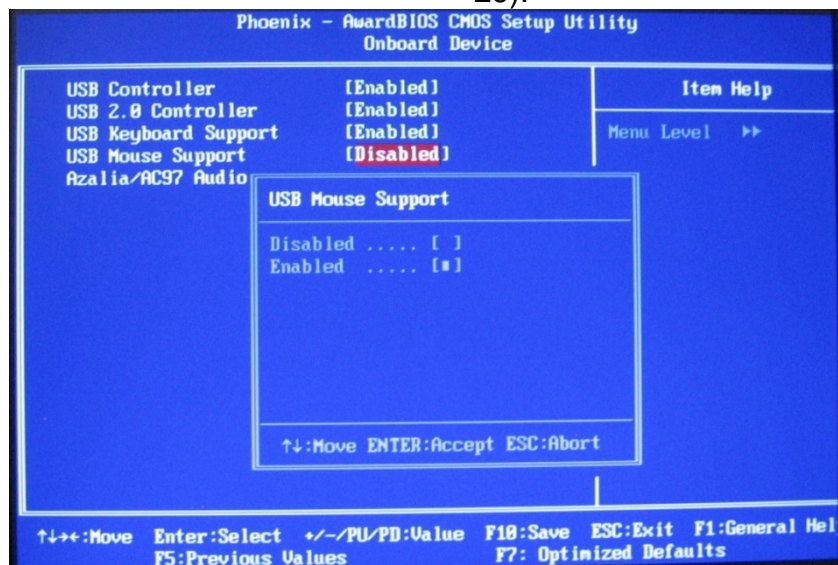

Figure 7-29 USB Mouse Support
19. On the **Onboard Device** screen. Scroll down and select **USB Mouse Support** and Press **Enter**. Select **Enabled** on the **Popup** screen. Press **Enter**. (Figure 7-29).